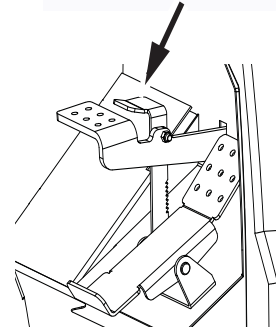

Fig. 2: Set the Praking Brake
1. Set the machine parking brake. (See Fig. 2)